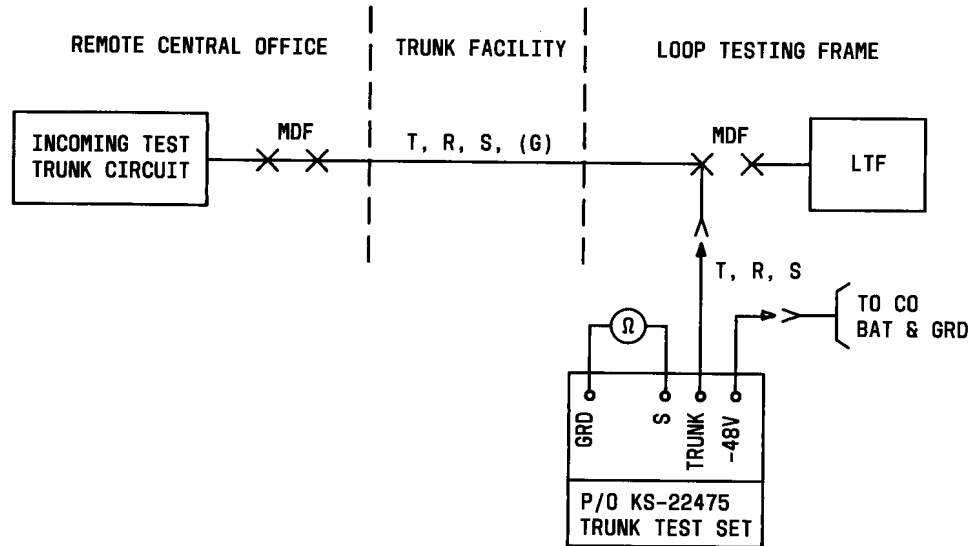

Fig. 17—Sleeve Resistance—Connections
G. Sleeve Resistance (all test trunks) (Fig. 17).